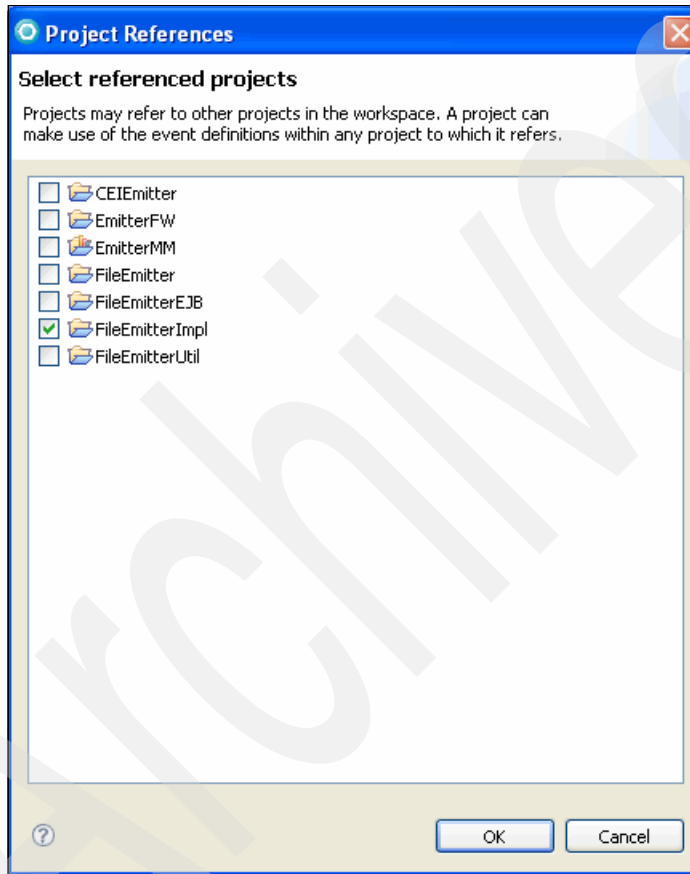

Figure 9-40 Referencing FileEmitterImpl
6. In the Project References window (Figure 9-40), select the **FileEmitterImpl** project to reference it. We reference the FileEmitterImpl because the XML schema, ShipmentNotification.xsd, was defined in the project. Click **OK**.